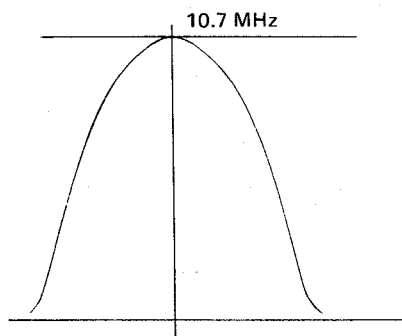

Figure 4
- 6) By turning TA01 core, adjust IF waveform so that waveform is made as shown in Fig. 4 and single peak characteristics are maximum.